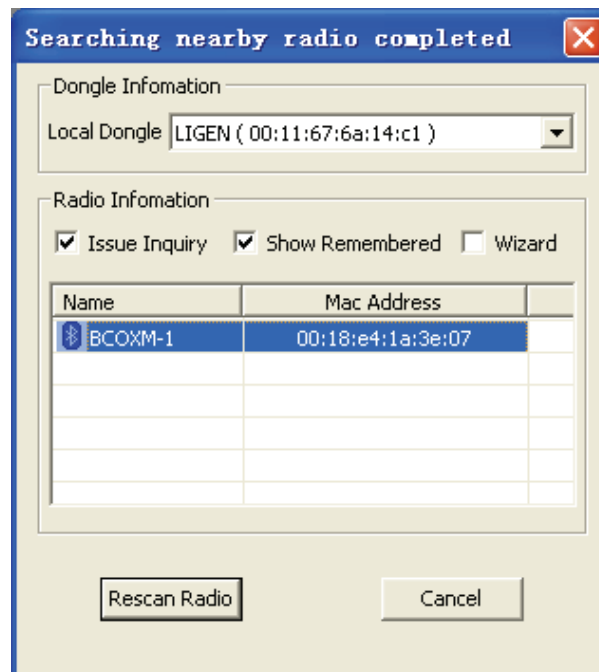

Figure 3-21
(2). Select “Issue Inquiry” and “Show Remembered” in the interface as shown in Figure 3-21. The ordinal operation is the same as when selecting “Show Remembered”.